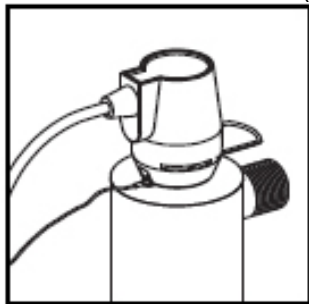
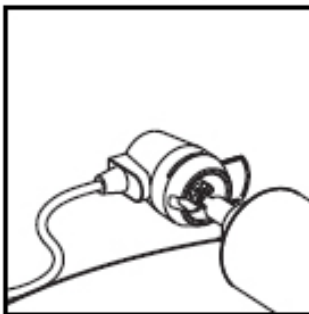
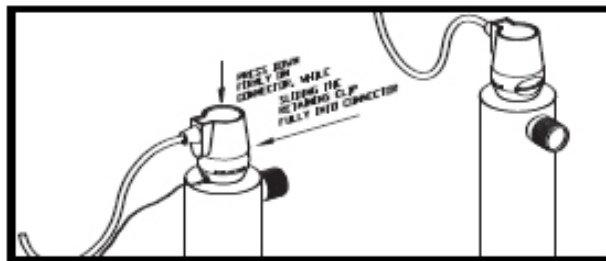

FIGURE 1
FIGURE 2
FIGURE 5
2. Remove the ballast/connector by sliding the metal ring away from the body of the connector (Figure 1). Do not twist the lamp from the connector, simply slide the two apart. Fully remove the lamp from the reactor chamber, being careful not to angle the lamp and damage the quartz sleeve (Figure 2).
6. Once the lamp is fully seated on the connector, slide the ballast/connector over the aluminum retaining nut. Make sure the metal retaining ring on the ballast/connector is pulled out, allowing the connector to slide completely over the retaining nut. Slide the metal ring back in to lock the connector into place (Figure 5). As the ballast/connector is keyed to the reactor chamber, make sure the depression on the connector is located over the ground lug located on the reactor chamber (Figure 1).